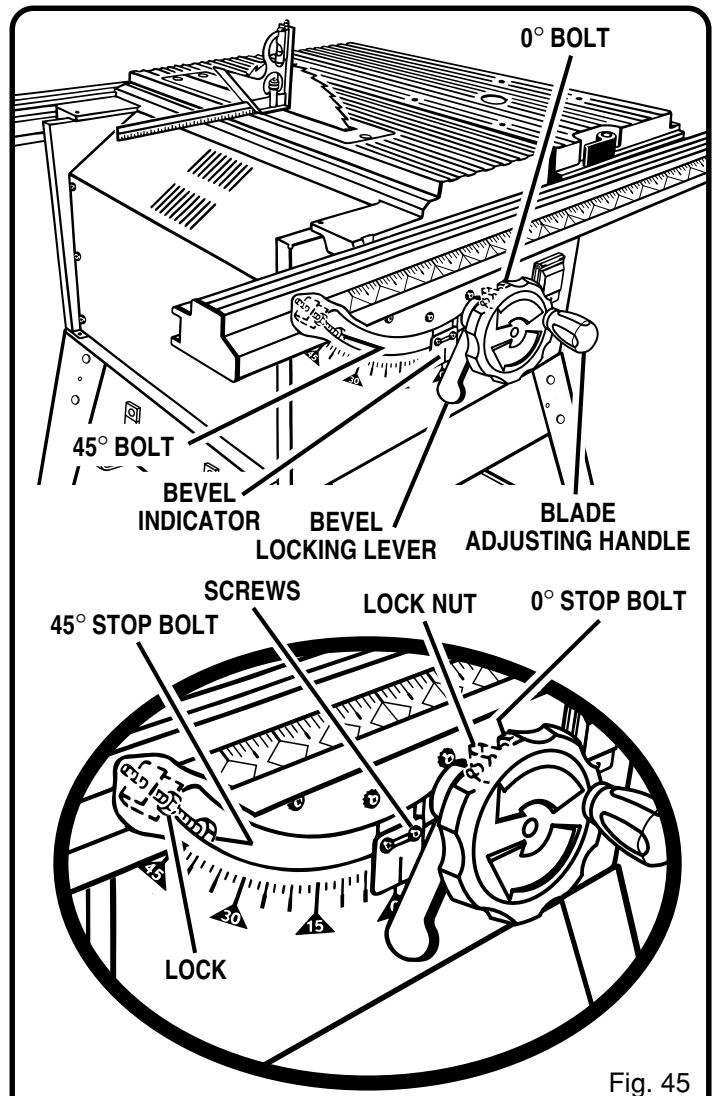

Fig. 45
See Figure 45.
- If the blade is not perfectly vertical (0°), loosen the lock nut on the 0° stop bolt inside the cabinet, position the blade, adjust the stop bolt, then retighten lock nut. See Figure 45, insert. If the bevel indicator is not at zero, adjust it with the two screws above the slot, beside the blade adjusting handle.
- If the blade is not an exact 45°, loosen the lock nut on the 45° stop bolt inside the cabinet, position the blade, adjust the stop bolt, then retighten lock nut. See Figure 45, insert.